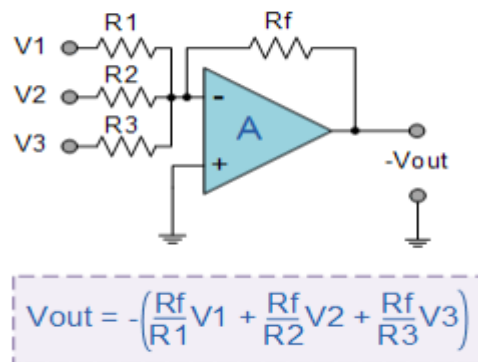

Fig. 5.1: Circuit Diagram for adder using Op-amp.
1. Connect the circuit as shown in the Fig. 5.1.